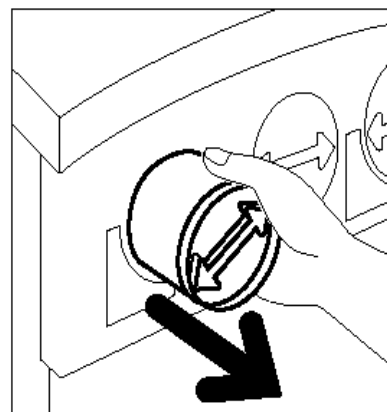

Figure 10: Pulling the Cartridge out of the copier/printer
- 4** Pull the cartridge completely out of the copier/printer, as illustrated in Figure 10. Dispose of the cartridge according to local regulations.